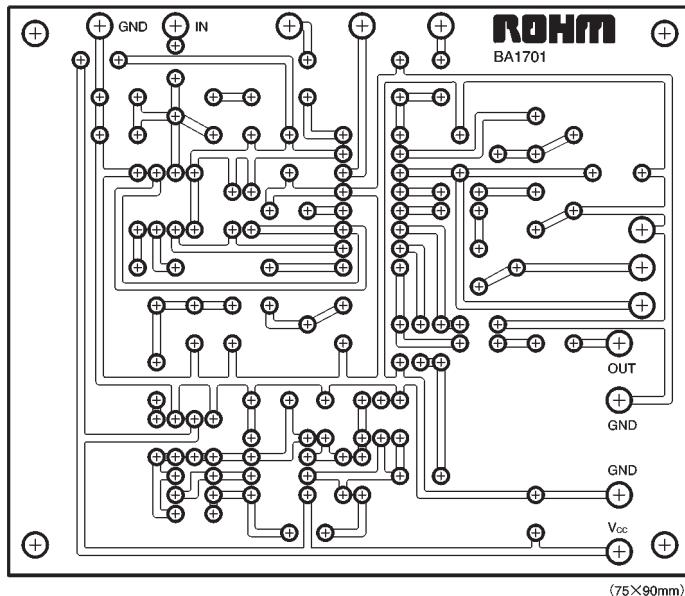

Fig. 6
- (1) Use accurate film capacitors for the VCO time constant capacitor C_{14} ($0.22\mu F$), the RAMP time constant capacitor C_{17} ($1\mu F$), and the BBD clock time constant capacitor ($0.0047\mu F$).
- (2) If the AF output pin (pin 8) has a capacitive load, you must take precautions to ensure that the BA1701 AF amplifier does not oscillate. We recommend that you insert R_{19} (about $10k\Omega$) in the signal output line.
- (3) To prevent oscillation, position the earth point of the BBD clock time constant pin (pin 9) close to the GND pin (pin 13) (see Fig. 6).